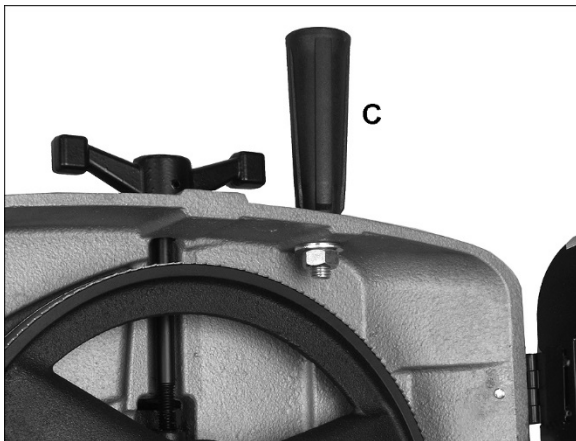
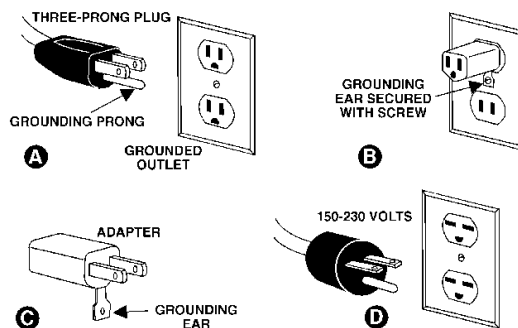

Figure 6-5: installing handle
Figure 7-1: grounding
4. Install handle with flat washers and nut (C, Figure 6-5), using 19mm wrench. To install, raise bow to vertical position and open guard. **CAUTION:** Spring-tensioned stop bracket (see Figure 7-1) must be rotated out of the way before raising bow.
The HVBS-712 and HVBS-712D Band Saw is rated at 115/230V power, and is pre-wired for 115 volt. The band saw comes with a plug designed for use on a circuit with a *grounded outlet* that looks like the one pictured in **A**, Figure 7-1.
When operated at **115-volt**, this tool is intended for use on a circuit that has an outlet that looks like the one illustrated in **A**, Figure 7-1. An adapter, shown in **B** and **C**, may be used to connect this plug to a 2-pole receptacle as shown in **B** if a properly grounded outlet is not available. The temporary adapter should be used only until a properly grounded outlet can be installed by a qualified electrician. The green-colored rigid ear, lug, and the like, extending from the adapter must be connected to a permanent ground such as a properly grounded outlet box. **Note:** In Canada, the use of a temporary adaptor is not permitted by the Canadian Electrical Code, C22.1.
When operated at **230-volt**, this tool is intended for use on a circuit that has an outlet that looks like the one illustrated in **D**, Figure 7-1. The tool has a grounding plug that looks like the plug illustrated in **D**. Make sure the tool is connected to an outlet having the same configuration as the plug. No adapter is available or should be used with this tool. If the tool must be reconnected for use on a different type of electric circuit, the reconnection should be made by qualified service personnel; and after